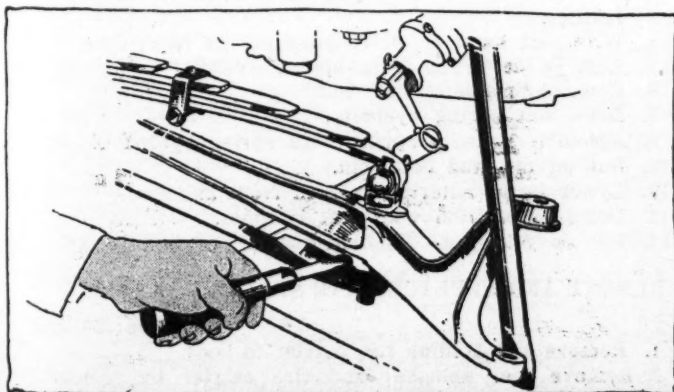

Fig. 1. Showing pinch bar inserted in axle yoke
12. With a short pinch-bar inserted in axle yoke, as shown in Fig. 1, cock axle enough to allow front spring radius leaves to be pried from spring yoke with screwdriver.